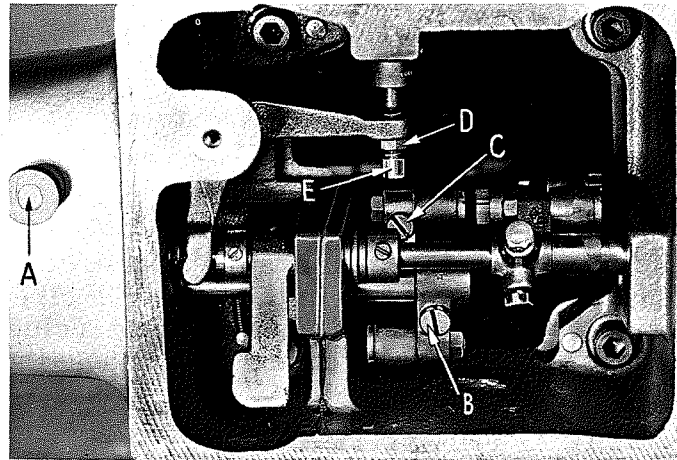
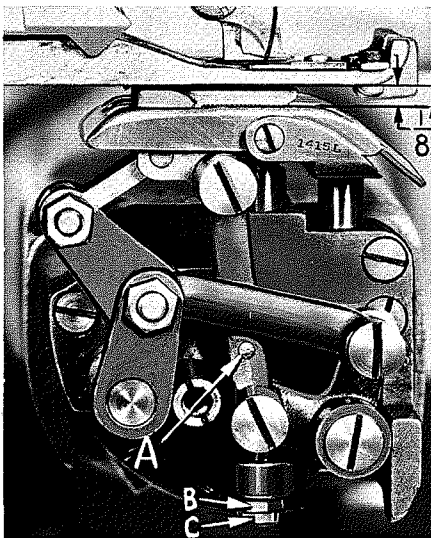
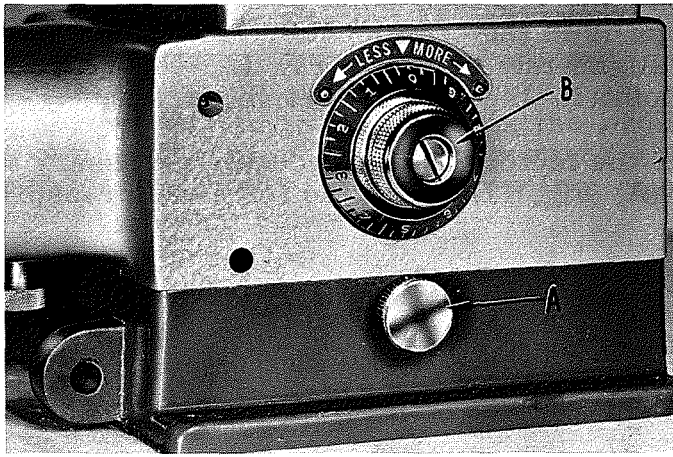
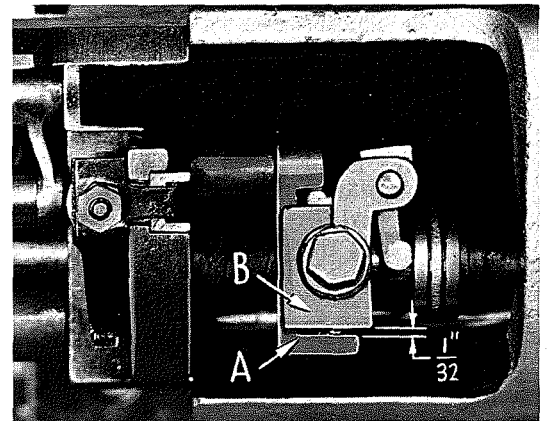

Fig. 11
Fig. 12
Fig. 13
Fig. 14
The feed plate pressure is adjusted at the factory. If it becomes necessary to change the pressure, turn knurled screw (A, Fig. 11) clockwise for more pressure and counterclockwise for less.
Turn the handwheel in operating direction until the feed point reaches its highest position and the feed plate reaches its lowest position. At this point, there should be $1/8$ inch space between the top of the feed plate and the bottom of the presser foot (Fig. 12). To obtain this adjustment, loosen the machine base locking screw (A, Fig. 13) and lay the machine on its back. Then, loosen screw (B, Fig. 11) and hold link (A, Fig. 12) so that the feed point is pressed up against the bottom of the presser foot. Turn the handwheel in operating direction until the feed point reaches its most forward position, and retighten screw (B, Fig. 11).
Turn the handwheel in operating direction until the feed point first touches the presser foot. At this point, the front edge of the feed point should be aligned with the front edge of the knurling on the feed plate. To make this adjustment, loosen screw (C, Fig. 11), and by means of link (A, Fig. 12), move the feed point forward or backward as required. Retighten screw (C, Fig. 11). If, in this adjustment, the feed point has to be moved an appreciable distance, repeat the adjustment "Setting The Feed Point Height" in the previous instructions.
The height of the plunger is adjusted by turning the knob (B, Fig. 13) clockwise to raise the plunger and counterclockwise to lower it. To provide for the maximum plunger adjustment, there should be $1/32$ inch clearance between plunger crank (A, Fig. 14) and the plunger block (B) when the adjusting knob (B, Fig. 13) is turned clockwise as far as it will go. Note that there are pins which stop the knob (B) after each complete revolution. The knob may be pulled out toward the operator to lift it over the stop. The knob can make three complete revolutions. To make the $1/32$ inch adjustment, turn the knob clockwise as far as it will go. Loosen locknut (D, Fig. 11) and turn screw (E) in the required direction. Retighten nut (D). Setting is correct when the needle, on its stroke, to the right, just clears
the top of the plunger, with the adjusting knob in the maximum clockwise position. If after initial setting, further adjustment of height is necessary, it can be accomplished by turning nut (B, Fig. 12) and locknut (C) up or down as required. Check the adjustment so that the needle does not strike the plunger.